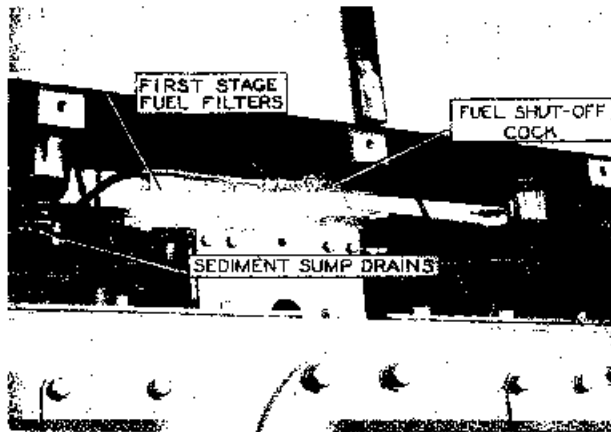

FIG. 3
2. Shut fuel off under tank by turning shut-off cock handle to vertical. Fig. 3.
3. Disconnect fuel lines under tank and remove clamp bolts holding fuel line to fender. Fig. 3.